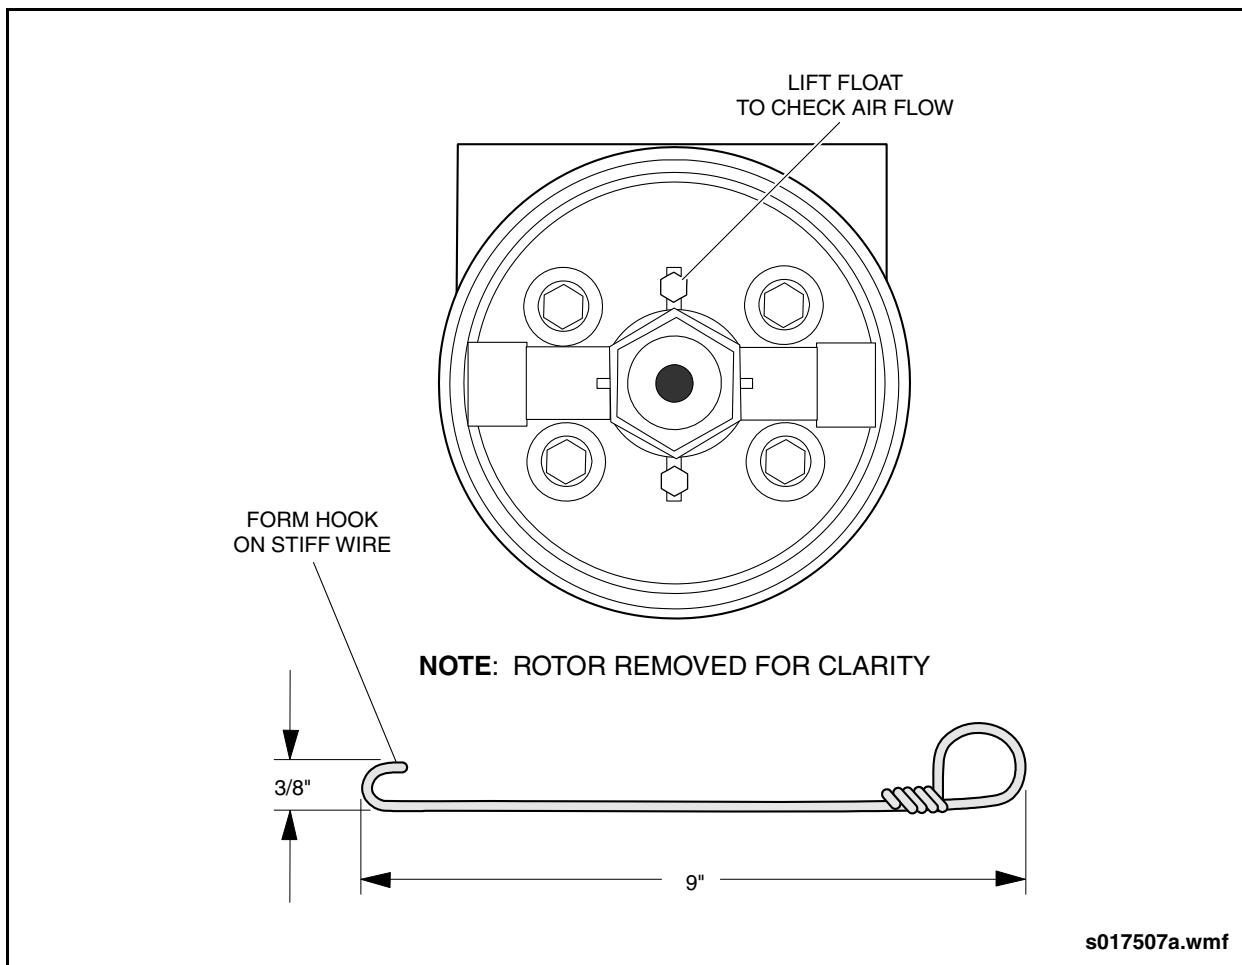

Fig. 4-35: Float Assembly
6. Check the float mechanism for proper operation as follows: See "Fig. 4-35: Float Assembly" on page 64.